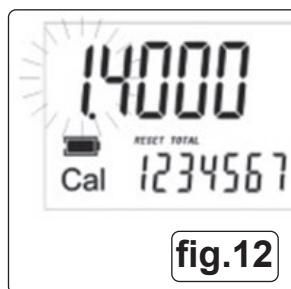

fig.12
- 5.4.3. Press and hold MOVE key until all digits illuminate and display shows 'Cal' (fig.12).